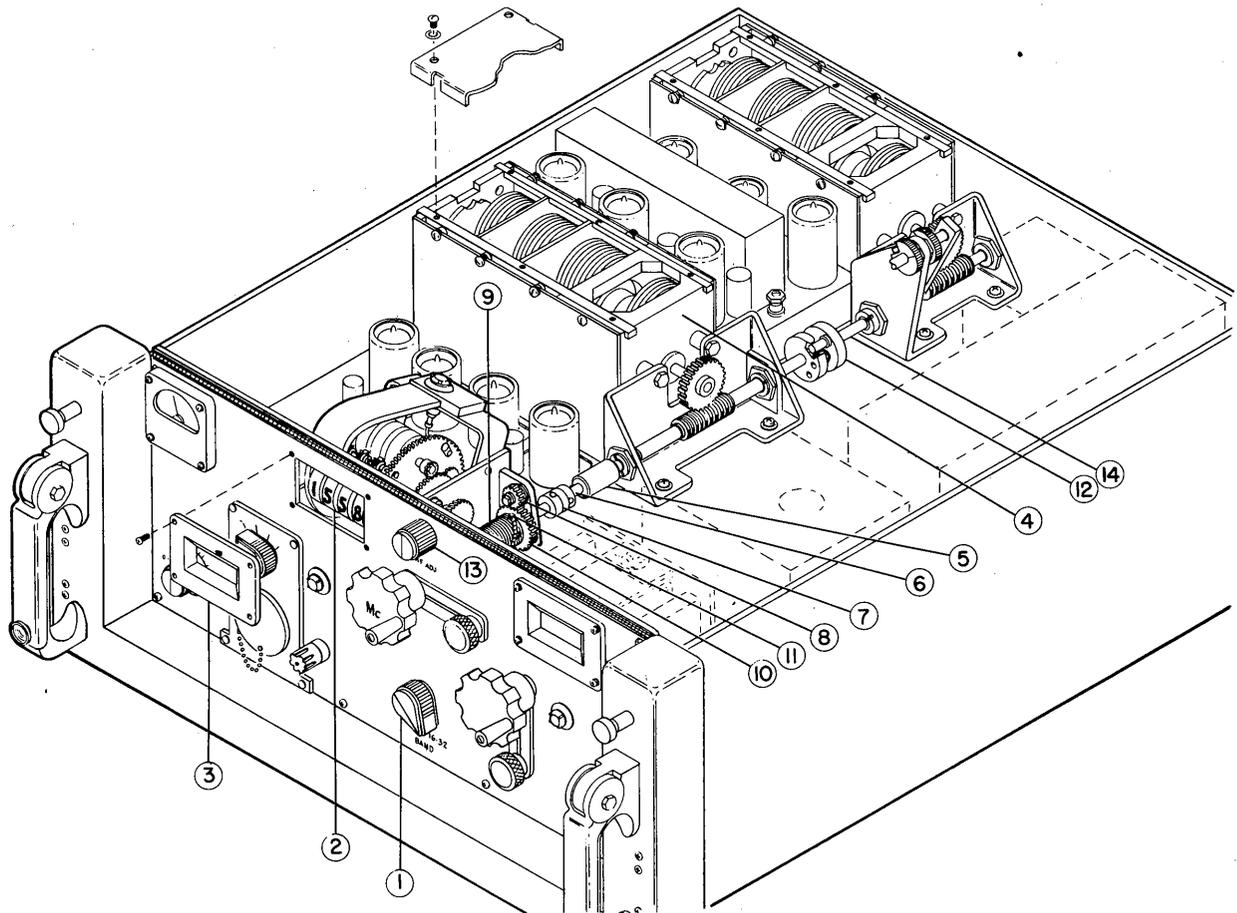

Figure 6-7. Converter Drawer, Main Tuning Mechanism
(1) Ease the blister panel into place so that it is close enough to the rear cables to permit reconnecting them.
(2) Connect signal transfer and power cables between demodulator and converter cabinets.
(3) Move the blister panel back, align it with fasteners and secure it in place.
(4) Reinstall converter drawer; close and lock it.
(13) ALIGNMENT AND GANGING OF CAPACITORS. (See figure 6-7.)—The following instructions cover alignment of the harmonic-amplifier capacitor with the MEGACYCLE counter and ganging the capacitors of the preselector and the harmonic amplifier. Numerals in parentheses identify items shown in figure 6-7.